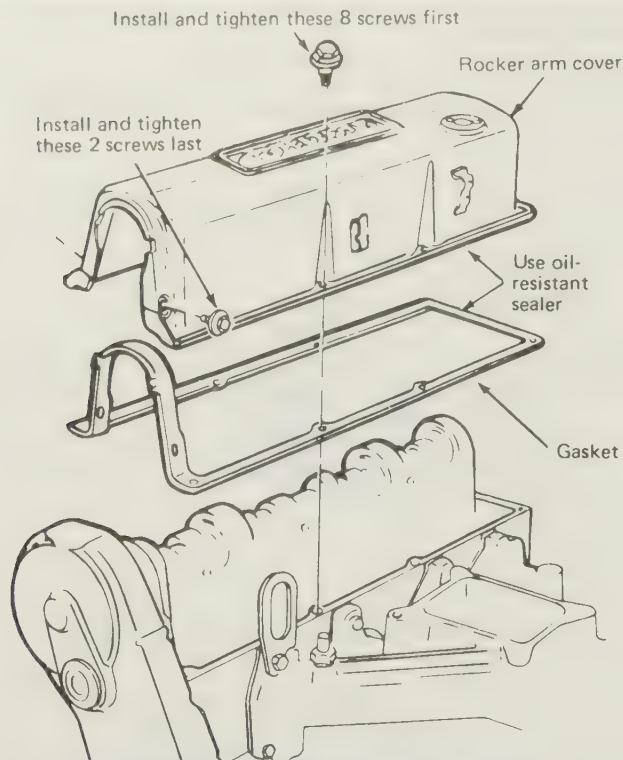

Fig. 1.8. Rocker cover and gasket (Sec. 8)
- 12 Loosen the eight screws from around the rocker cover and the two screws at the front end. Remove the screws, lift off the cover and remove the gasket. (Fig. 1.8.)